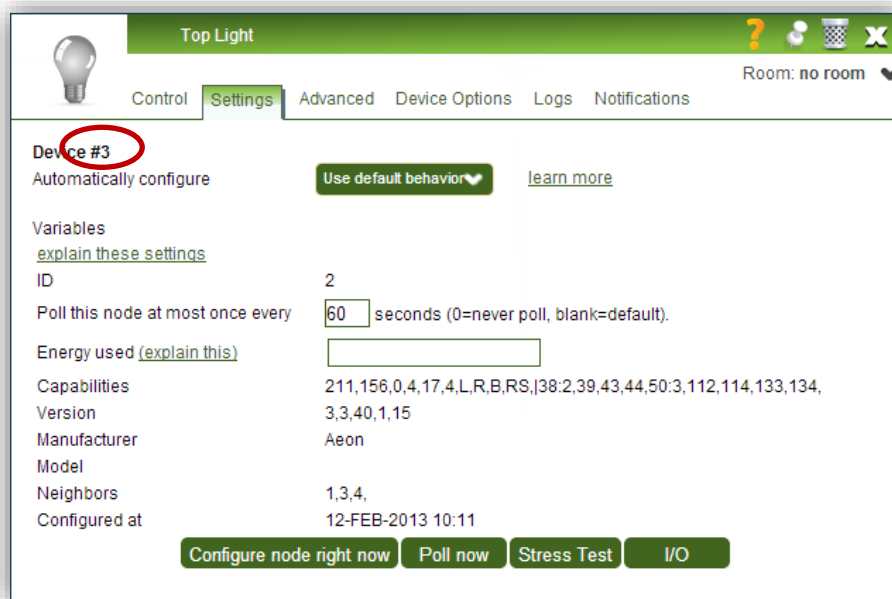

Figure 9 - Highlighting the device number required to integrate with Push
- Environexus Device Number: The device number of the Environexus device you wish to control, this can be found in the settings tab of the device properties panel in the Environexus online manager (see Figure 9)